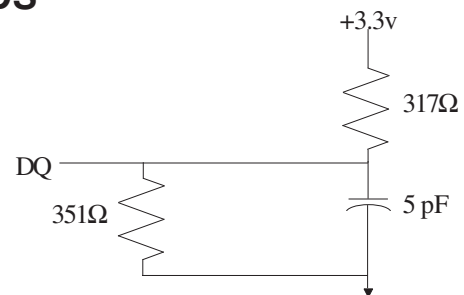

Fig. 2 3.3V I/O OUTPUT LOAD EQUIVALENT
- The load used for V_{OH}, V_{OL} testing is shown in Figure 2 for 3.3V I/O. AC load current is higher than the stated DC values.
3. This parameter is measured with the output loading shown in Figure 2 for 3.3V I/O.